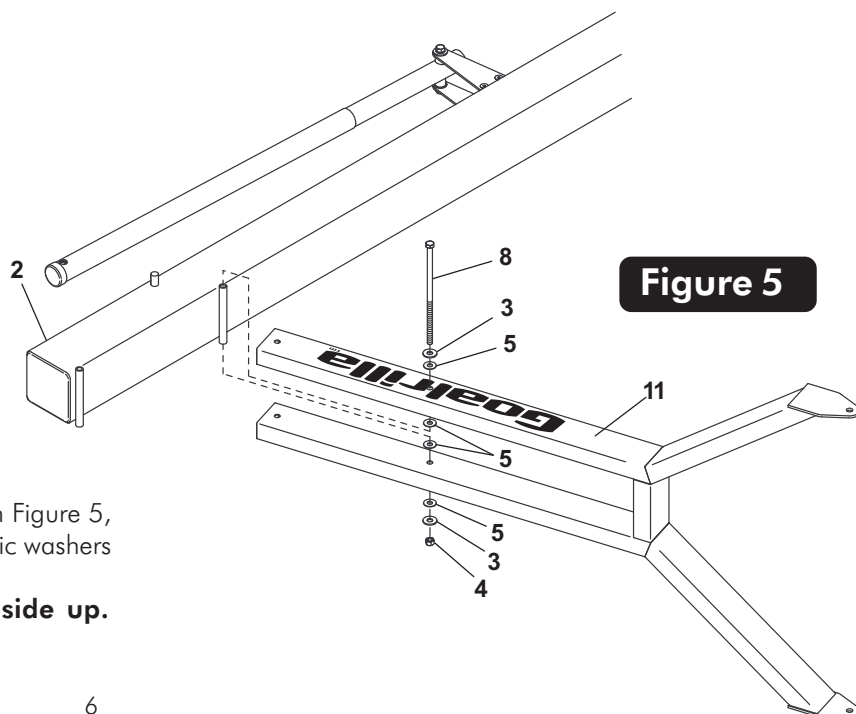

Figure 5
5. Attach lower arm (#11) to Pole (#2), as shown in Figure 5, using a bolt (#8), two flat washers (#3), four plastic washers (#5) and hex nut (#4).